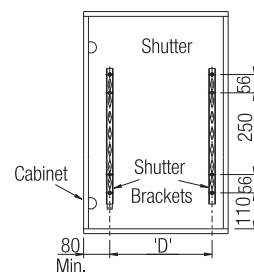

Fig. 8
8. Fit the Shutter Brackets onto the shutter for Dimensions refer Fig. 8.